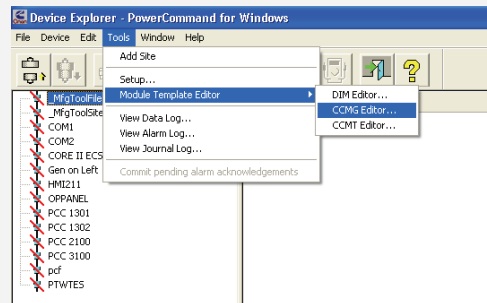
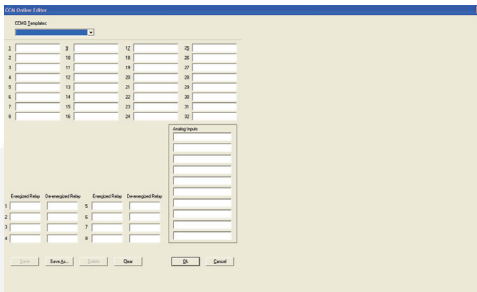

FIGURE 2-41. SELECTING THE CCM-G EDITOR
FIGURE 2-42. BLANK CCM-G EDITOR
- Start the PCW program on go to **Tools -> Module Template Editor** from the menu bar and select either **CCMG Editor** or **CCMT Editor** (see Figure 2-41). A blank template is displayed (see Figure 2-42).